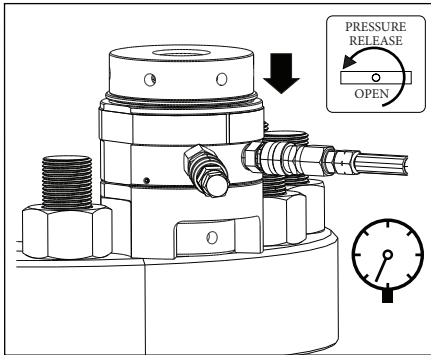

FIGURE 19, PRESSURE RELEASED - NUT DE-TENSIONED
8. Release the hydraulic pressure by SLOWLY opening the pump pressure release (return to tank) valve. Verify that the oil pressure gauge indicates zero (0) psi/bar. See Figure 19. The studs are now fully de-tensioned.